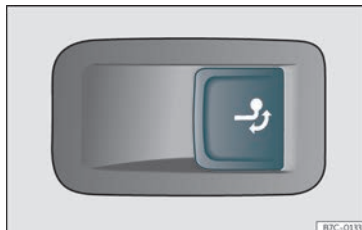

Fig. 195 On the right side of the luggage compartment: button for unlocking the tow hook.
- Pull the >>> **Fig. 195** button briefly. The tow hook unlocks electrically and automatically turns outwards. The button's control lamp flashes.
- Pull the >>> **Fig. 195** button briefly. The tow hook unlocks electrically.
- If the warning light on the button >>> **Fig. 195** → *flashes*, this means that the tow hook has not been attached properly or is damaged.>>> ⚠
- If the warning lamp >>> **Fig. 195** → *remains on* with the rear lid open, the tow hook is correctly in place both when extracted and when covered.
- Never press the >>> **Fig. 195** button when there is a trailer hooked to the vehicle or when a carrier system or other accessories are mounted on the tow hook.